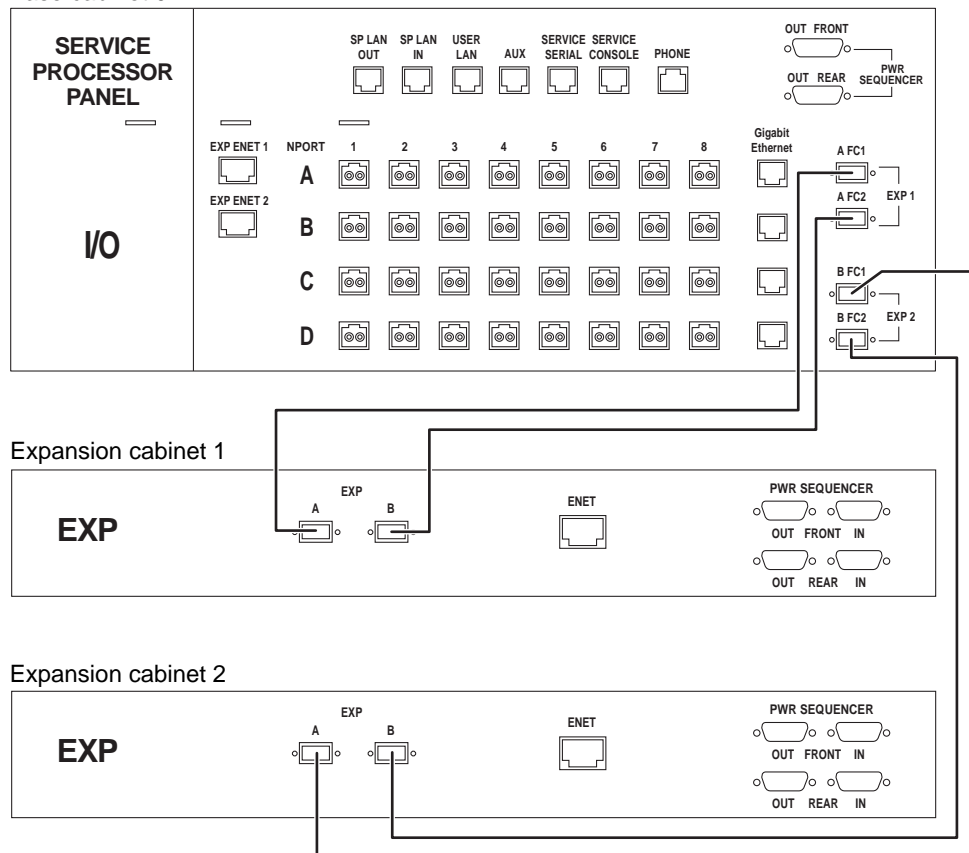

FIGURE 4 FC Cabling Between a New Service Panel of the Base Cabinet 0, Expansion Cabinet 1, and Expansion Cabinet 2
Connect redundant Fibre Channel (FC) cables (part number 537-1060-01) as follows (see FIGURE 4):